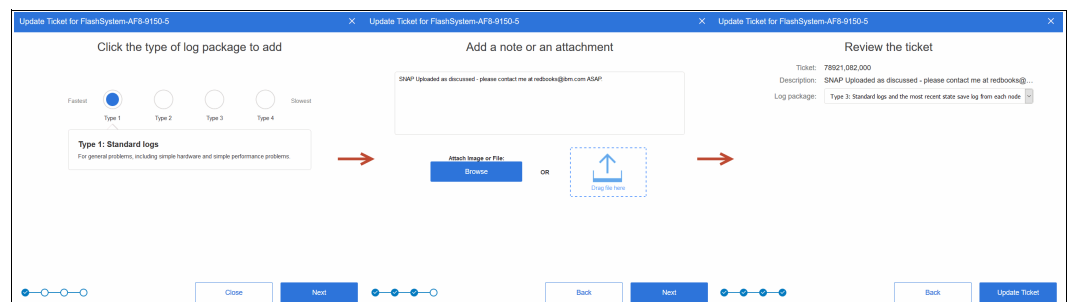

Figure 13-88 Adding a log package to the ticket
2. To quickly add logs to a ticket without having to browse to the system GUI or use IBM ECuRep, click **Add Log Package to Ticket**. A window opens that guides you through the process, as shown in Figure 13-88. You can select which type of log package you want and add a note to the ticket with the logs.